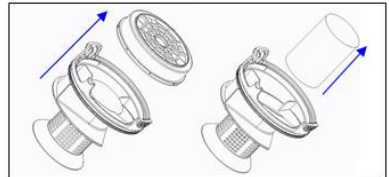

Fig. 17
3. Put the dust cup above the trash can, turn it upside down and shake it gently to pour out the collected dust (see fig. 17).